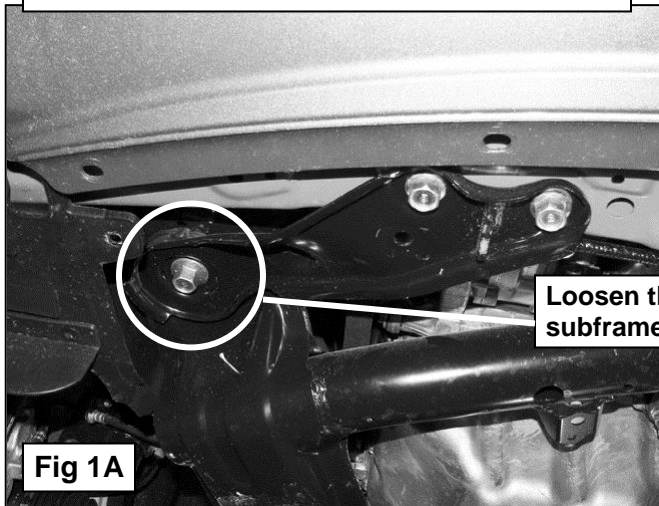
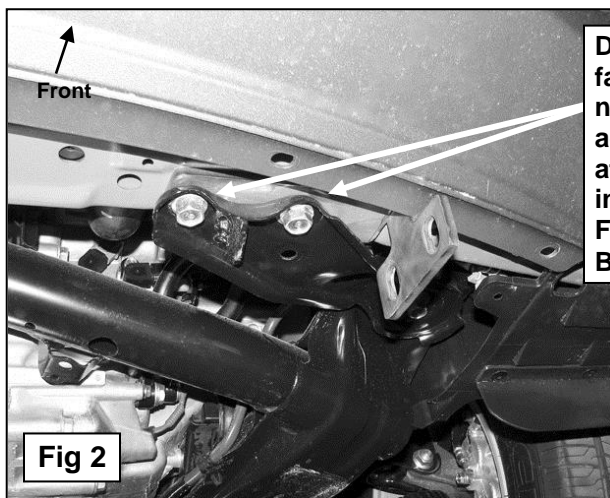

Fig 1A
Fig 2
- Starting at the driver side, remove the (2) factory hex bolts securing the frame support to the crossmember, **(Figure 1A & 1B)**. **NOTE:** Only install one Frame Mounting Bracket at a time and only remove the (2) factory hex bolts required to install the Frame Mounting Bracket. To provide extra clearance under the frame support, loosen the factory hex bolt in the subframe mount 1-2 full turns but **do not remove it** from the mount, **(Figures 1A & 1B)**. Select the driver side Frame Mounting Bracket and insert it under the frame support. Line up the two mounting holes in the Frame Mounting Bracket with the frame support and reinstall the factory mounting bolts, **(Figure 2)**. **IMPORTANT:** In some cases, due to very tight tolerances on the factory frame support, it may be necessary to carefully file the holes in the factory frame support for a little added clearance **only** if you find it difficult to get the factory hex bolt to thread into the crossmember. **DO NOT DAMAGE THE FINE THREADS ON THE FACTORY HEX BOLTS OR THE CROSSMEMBER!** Snug but do not tighten hardware at this time.